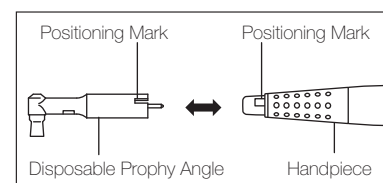

Fig. 3
- The disposable Prophy Angle's positioning mark depends on the manufacturer. It may be different from the position of Fig. 3.